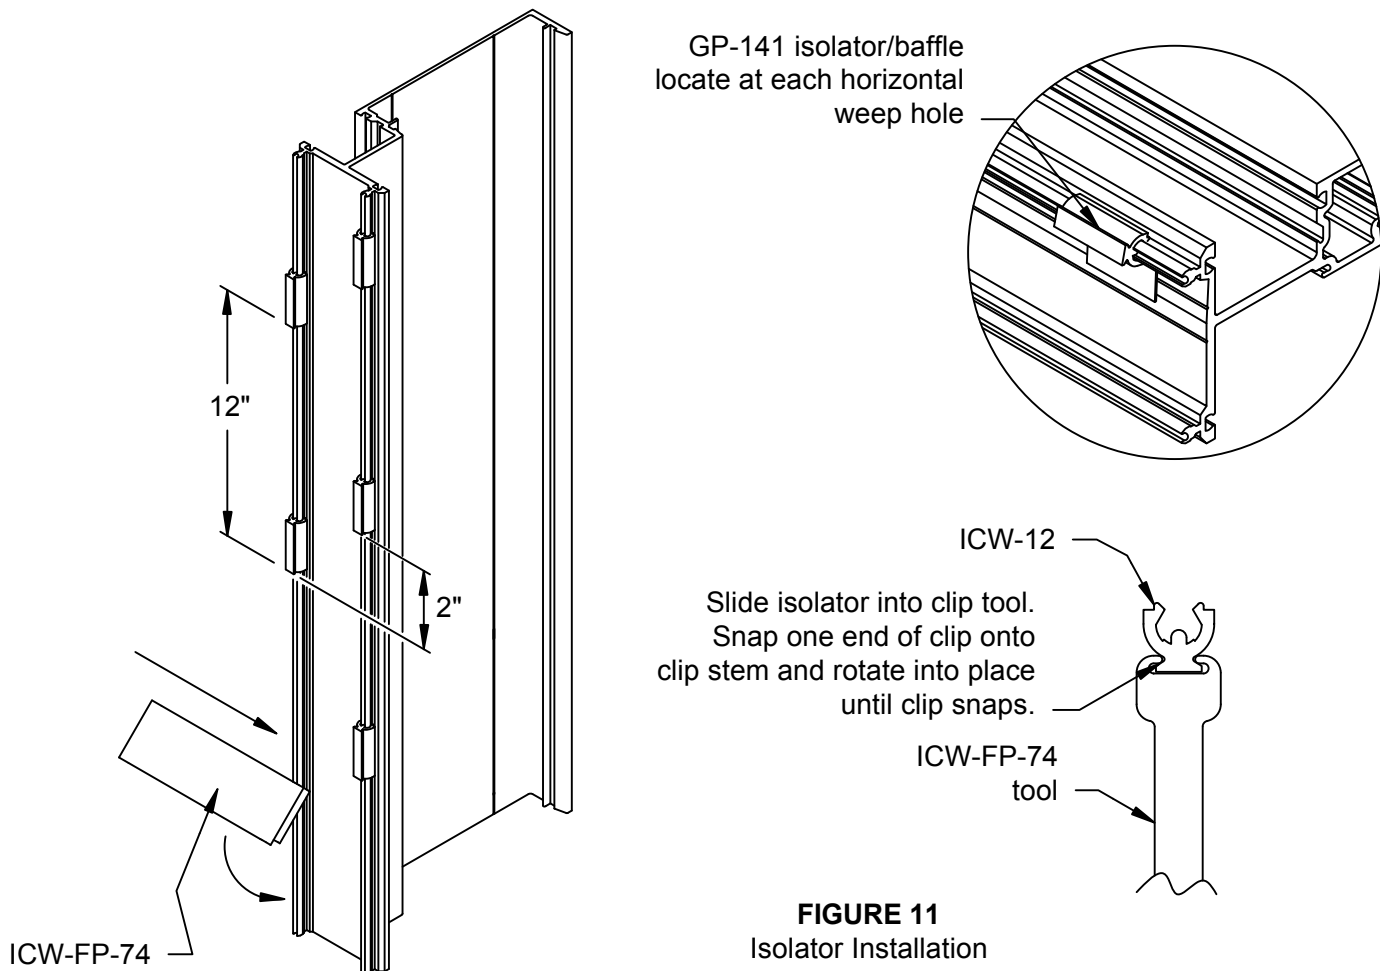

**FIGURE 9**
- 2.7 After units are assembled. Install mull caps to each end of vertical mullions and jambs. IW-325-01 mull cap will be bed in sealant and attached to mullion with FS-320 drive screws. Sealant must be tooled around inside of glazing pocket and on mating surfaces between mull cap, head/sill and verticals. SEE FIGURE 9 . Note: SSG mullions will not use mull caps. Bridges will be field installed at SSG verticals as noted on sheet 30.